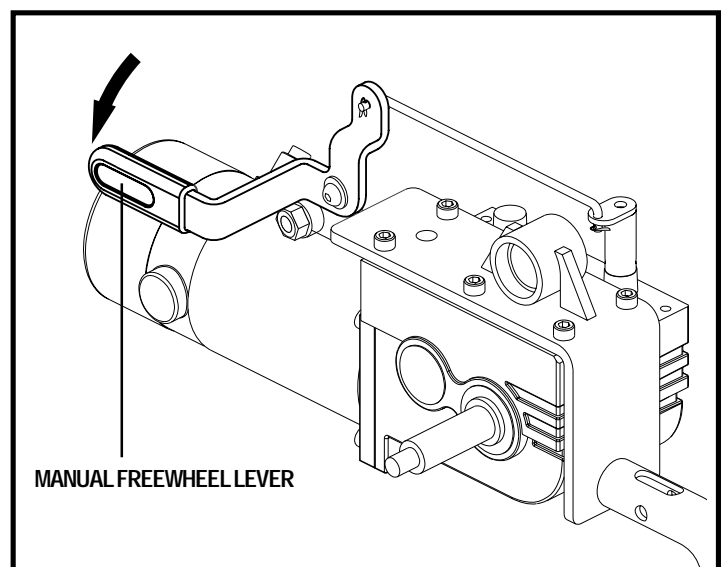

Figure 9. Freewheel Mode (Drive Disengaged)
3. Push the two levers downward to disengage the drive motors. See figure 9.